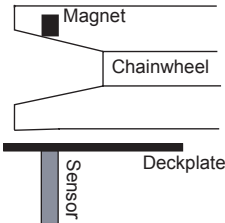

Fig 2
**Magnet Fit:** Drill a hole 10.3mm (13/32”) diameter and 9.5mm (3/8”) deep into a spoke in the top of the chainwheel. Cover the magnet with a minimum of 1mm epoxy. The magnet and sensor must be aligned so that the anchor rode passes between them (See Figs 2 & 3).